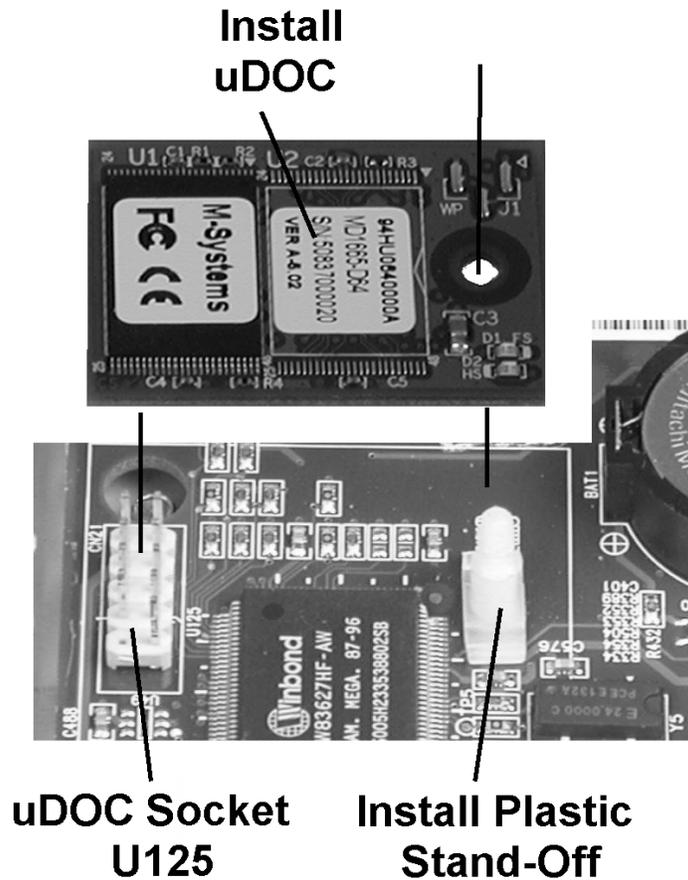

Figure 3-38: Installing a uDisk On Chip
3. Refer to Figure 3-38 and install the plastic stand-off supplied in the kit. Production units may include the stand-off pre-mounted to the system board.
4. Install the uDOC Module, as shown in Figure 3-38, below.